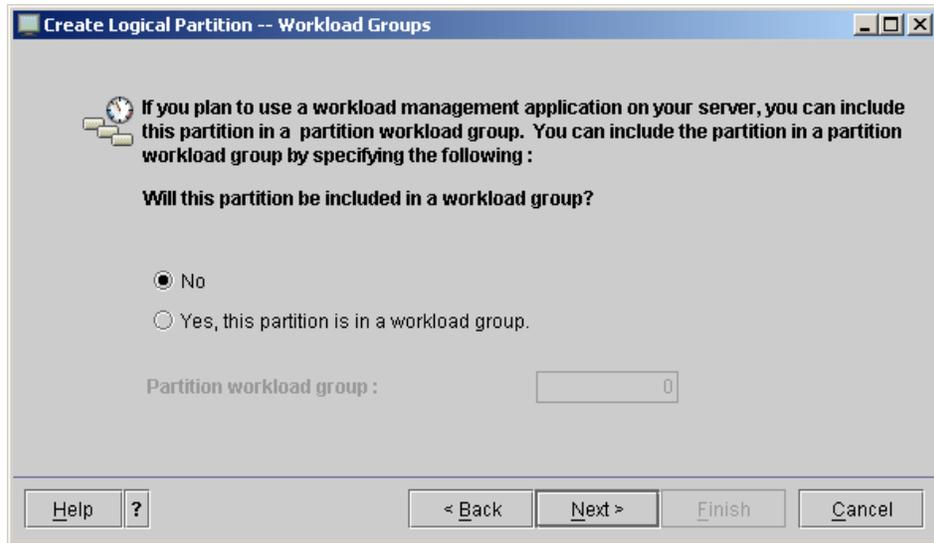

Figure 3-4 Skipping the workload management group
4. Skip the definition of a workload management group by selecting the **No** button and then click **Next** (Figure 3-4).